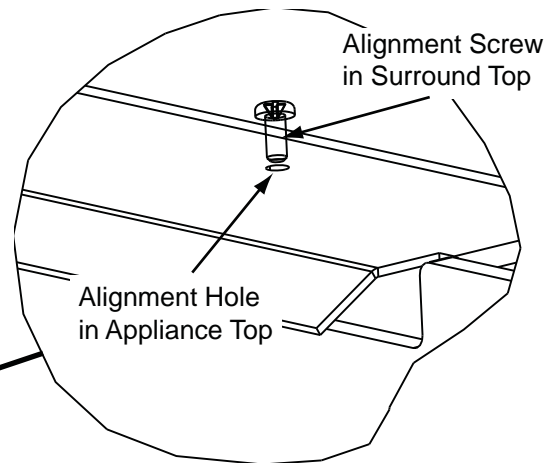

Figure 22.2
8. Align the 2 screws in the top surround piece to the 2 alignment holes on the appliance top. **Figure 22.2.**